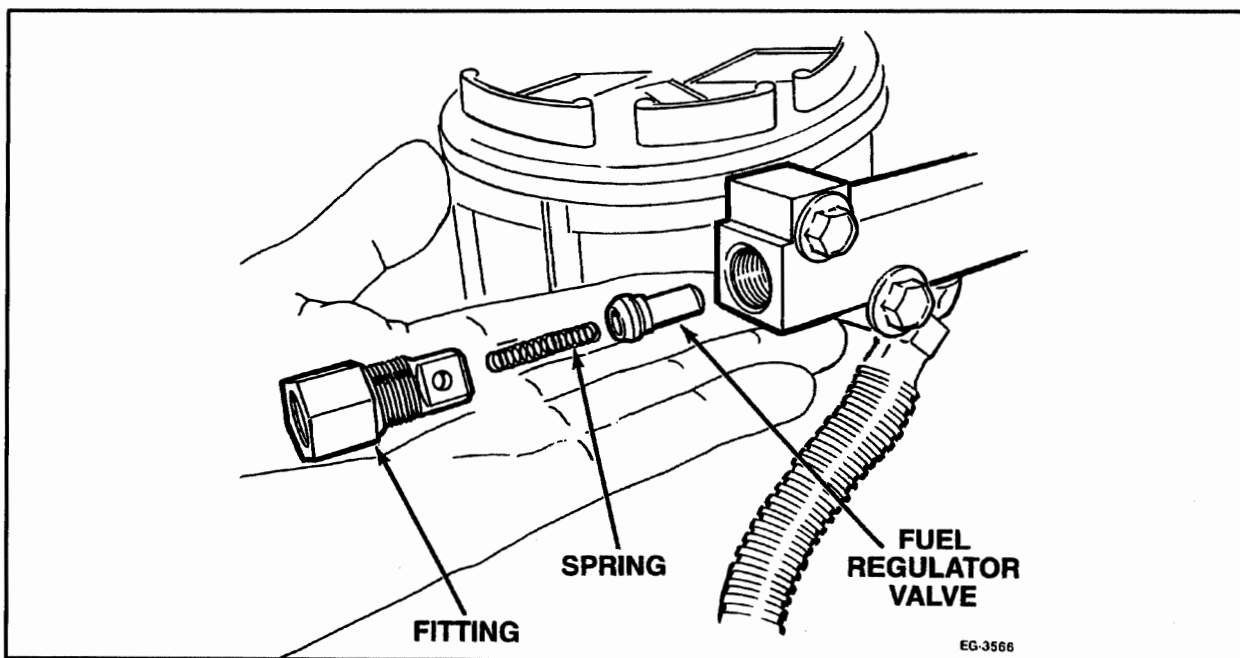

Figure 2.3-13. – Fuel Regulator Valve Removal and Inspection
1. Remove fuel return line from adapter fitting on fuel regulator block. (Figure 2.3-13.)